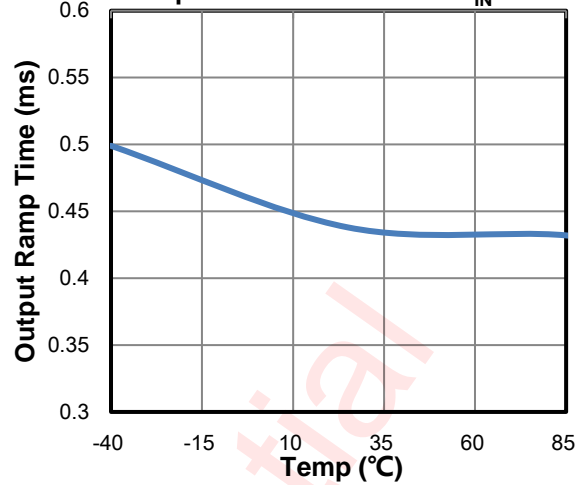
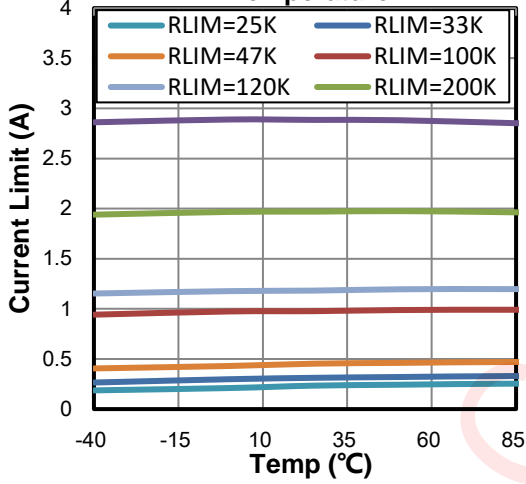

Figure 14 Current Limit vs. Temperature
Figure 15 Current Limit vs. Temperature
3. Update Figure 14 and Figure 15